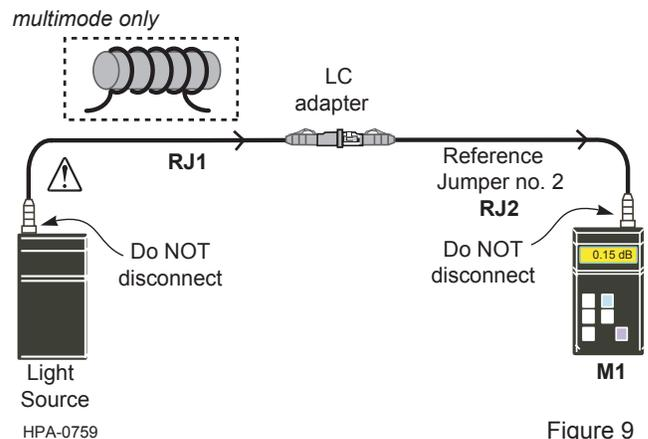

Figure 9
Step 6: Clean and install an LC to LC jumper-Reference Jumper no. 2 (**RJ2**) into **M1** and the LC adapter (Figure 9).